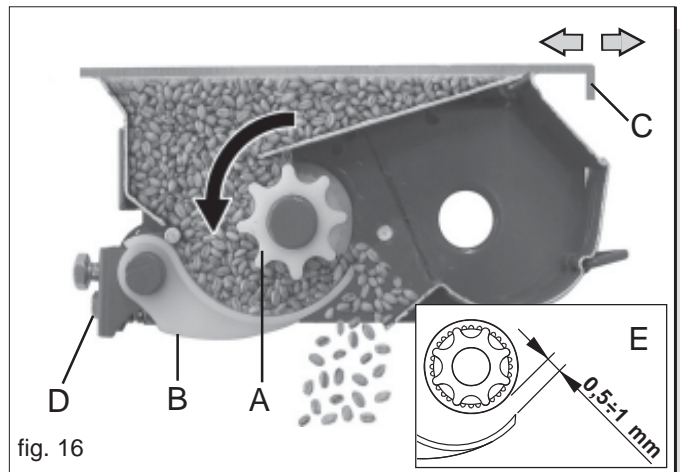

fig. 16
When the botton plate (B Fig. 16) are correctly positioned they ensure smooth and steady distribution of the seeds.
- 3) using screw (D), adjust the distance between the feeler pin and the distributing roller to between 0.5 and 1 mm (E Fig. 16).
The seed gates for (C Fig. 16) closing off the seed flow from the hopper have **two positions**: